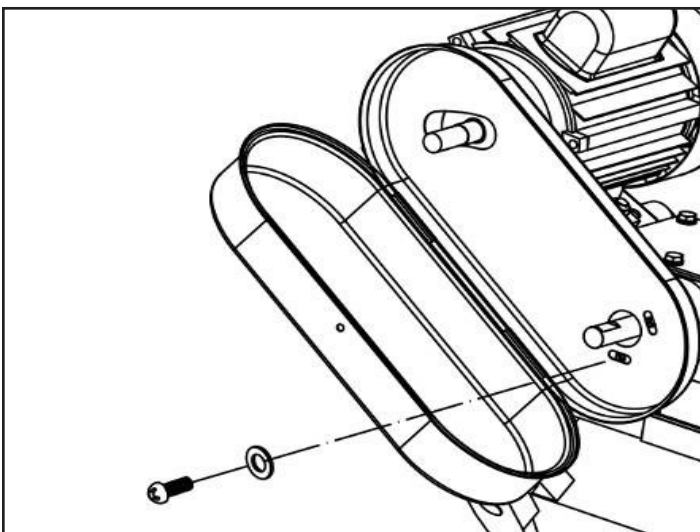

FIGURE 6
- Remove the pre installed screws and washers from the band saw near the gear shaft assembly. Place the belt house over the motor and gear shafts and secure it with the removed screws and washers. SEE Figures 6 & 7.